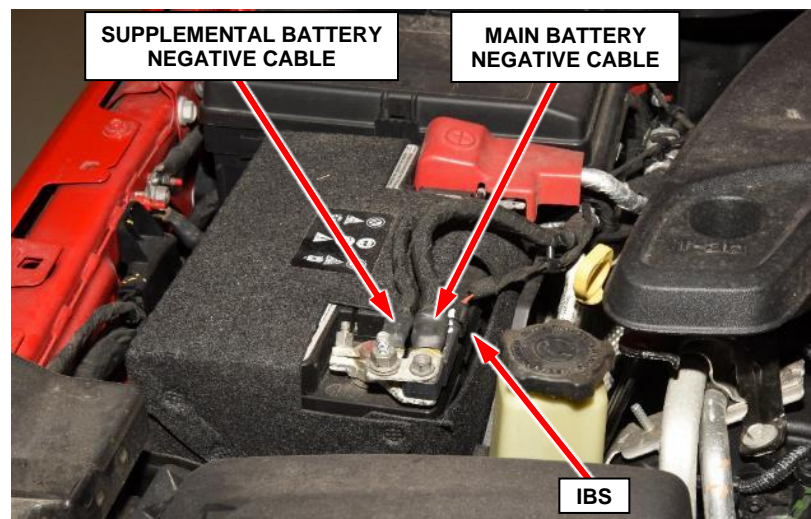

Figure 1 – Battery Negative Cable(s)
- b. Disconnect and isolate the supplemental (auxiliary) battery negative cable from the main battery negative cable end. This will disconnect and isolate the auxiliary battery ground (Figure 1).
- c. The main battery ground can be disconnected by removing the main battery negative cable from the negative battery cable end, or by disconnecting the Intelligent Battery Sensor (IBS) connector, loosening the negative battery clamp nut and removing the negative battery cable end from the battery post. Either method will disconnect the main battery. Both batteries should be disconnected from the vehicle electrical system (Figure 1).